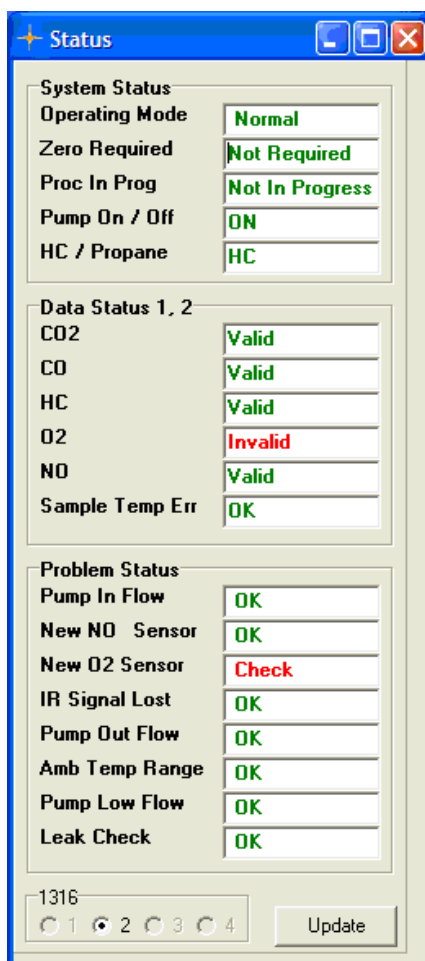

Figure 4.14 The Status window displaying that a new O₂ sensor is required.
- 2) If the New O₂ Sensor is required see the Status window figure 4.14, install a new O₂ sensor. Order number VM0200A.